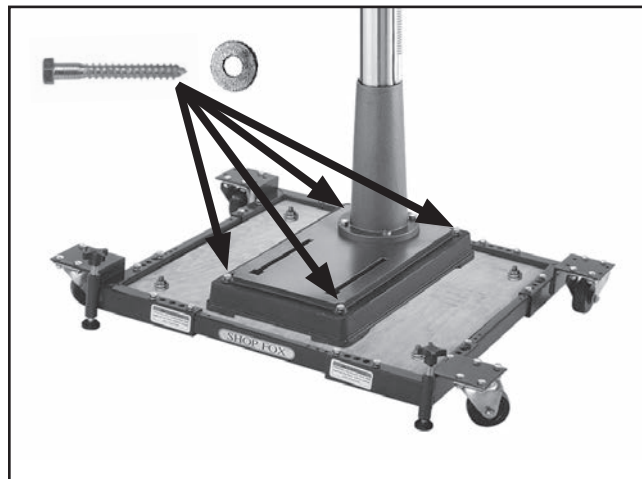

Figure 23. Drill press mounted on mobile base, using a base plate for support.
If you must use a mobile base, ALWAYS mount your drill press to a base plate inside of the mobile base, as shown in **Figure 23**.
9. Mount the drill press to the base plate with lag bolts and flat washers (**Figure 23**); or with through bolts, flat washers, and hex nuts.